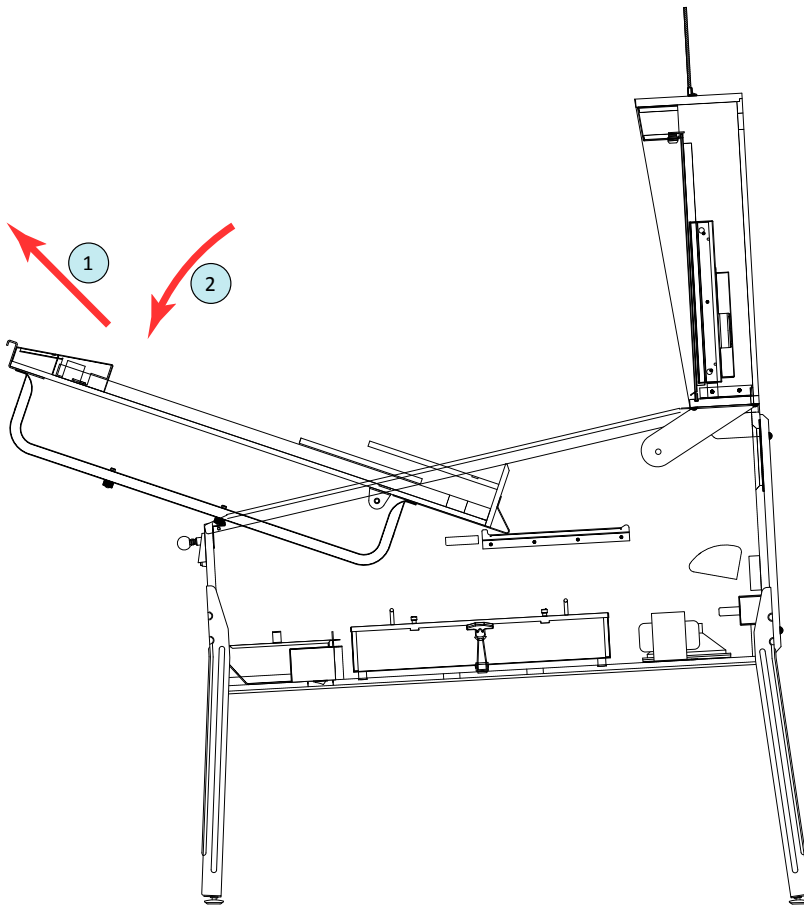

Figure A14. Moving the playfield to position 3.
15) Move the playfield from position 2 to 3 (figure A14). Pull it upward and outward until the second pair of rubber feet in the support rails reach the top of the lockdown bar receiver; again, lower the playfield, resting the feet in the channel.